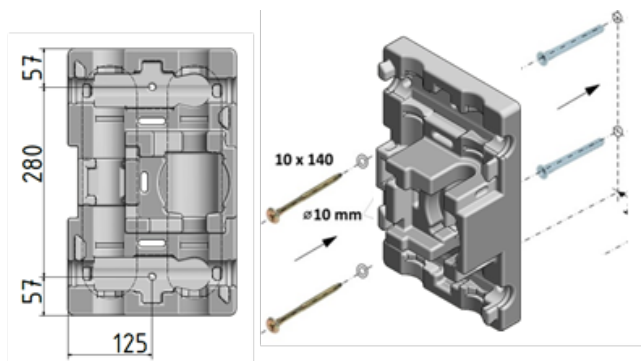

Fig.1: Pump group wall mounting
Sequence of installation of the pump group directly to the wall (Fig. 1):
2. Position the insulated lower shell on the wall and mark the drill holes or alternatively mark the hole dimensions according to Fig. 1.